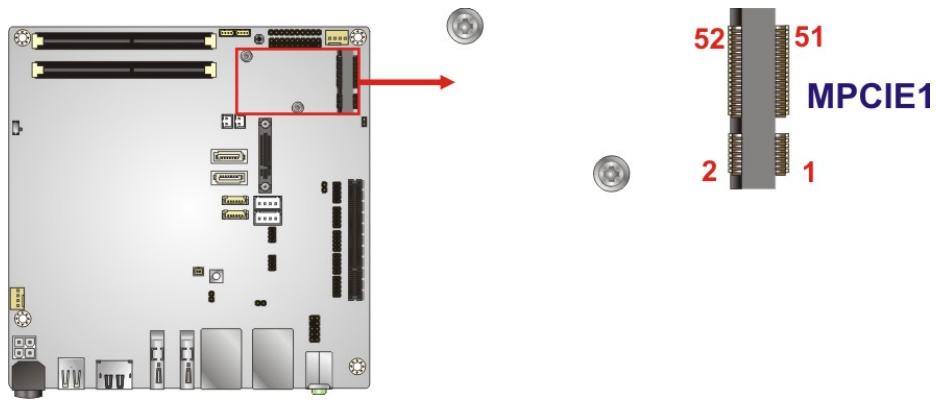

Figure 3-15: PCIe Mini Card Slot Location
- CN Location:** See **Figure 3-15**